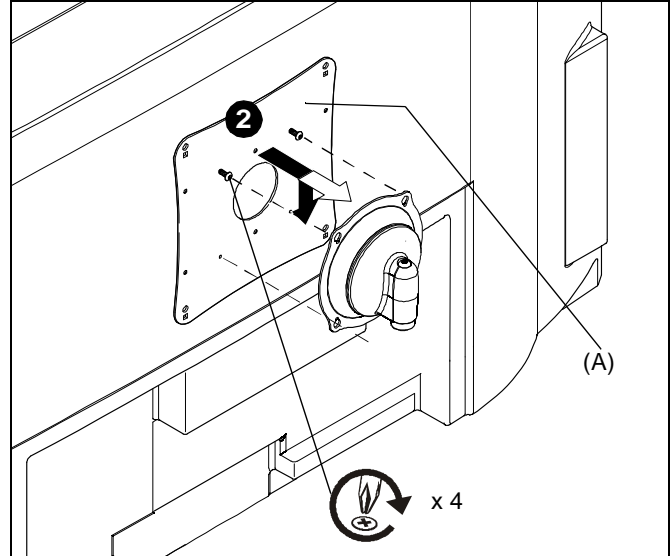

Figure 7
- Start two Phillips pan head screws into top mounting holes on interface bracket (A). (See Figure 7)
- Align two screws in interface bracket (A) with upper mounting holes in Centris cup and lower display until screws are seated in lower area of teardrop mounting holes. (See Figure 7)